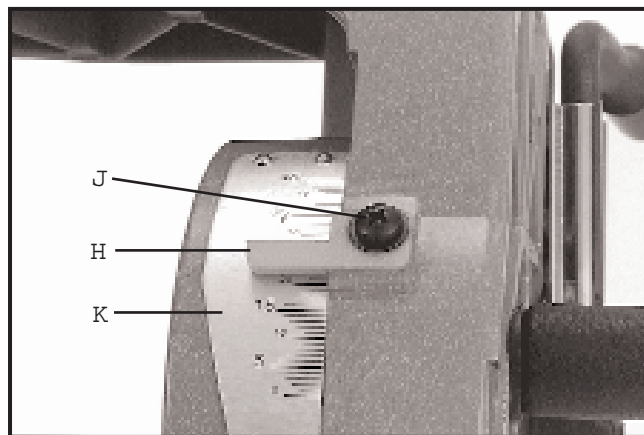

Fig. 30
5. When you are certain blade is 90 degrees to table, loosen screw (J) Fig. 30, and adjust pointer (H) to line up with the 0 degree mark on bevel scale (K).